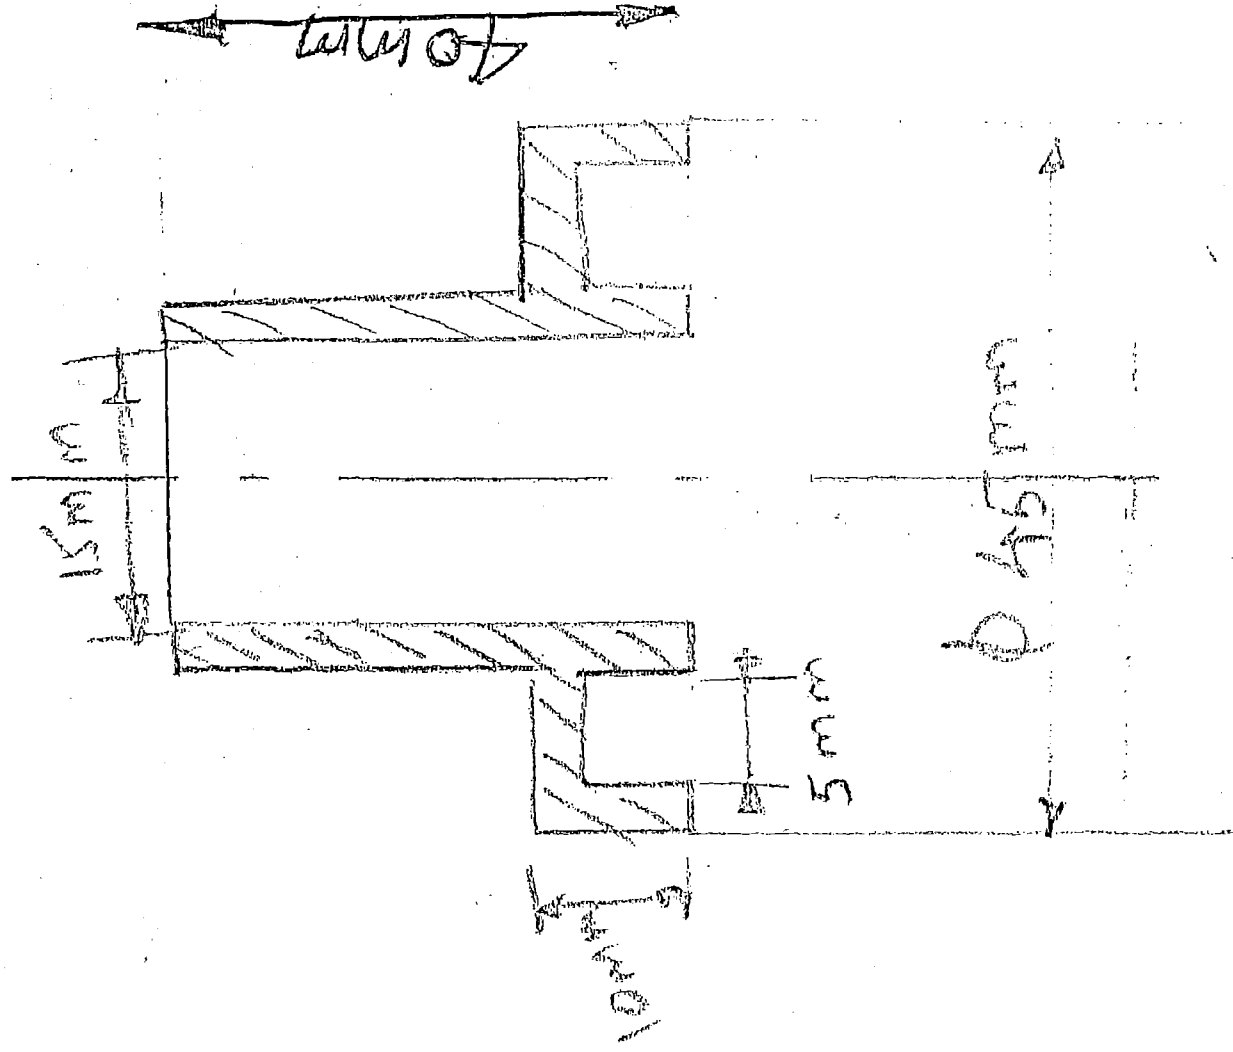

Fig. 2
- (b) Fig. 2 shown on Annular article to be produced out of P.F. powder. Design and draw a transfer mould showing sectional front view and partial top view, showing lay out of cavities suitable for producing four article per cycle. Prepare bill of material and insert major dimensions on it. All dimensions are in 'mm' (Take uniform thickness) Fig 2